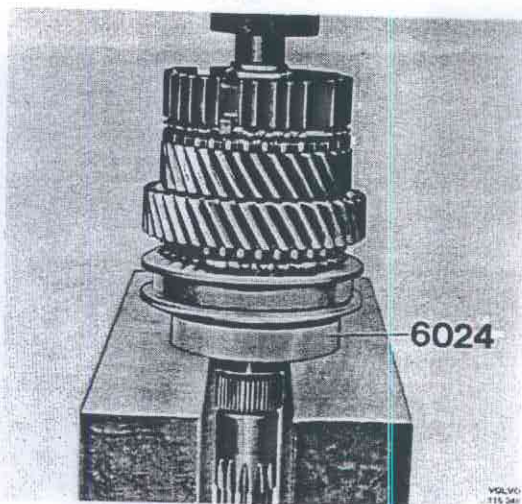

Fig. 43-85. Pressing on hub
6. Fit the hub. Place the shaft on 6024, Fig. 43-85, and press on the hub.